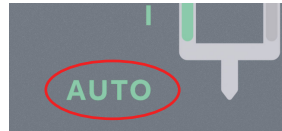

Figure 3.6 AUTO button and indicator light
- 4. Press the AUTO button on the controller to enter automatic mode; the Auto indicator light will be continuously on, as shown in Figure 3.6.